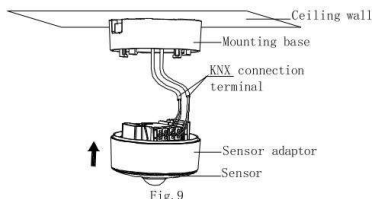

Fig. 9
(9) ① Connect the KNX connection terminal correctly according to the wiring instructions.
② Press the sensor adaptor into the mounting base. As shown in Fig. 9.